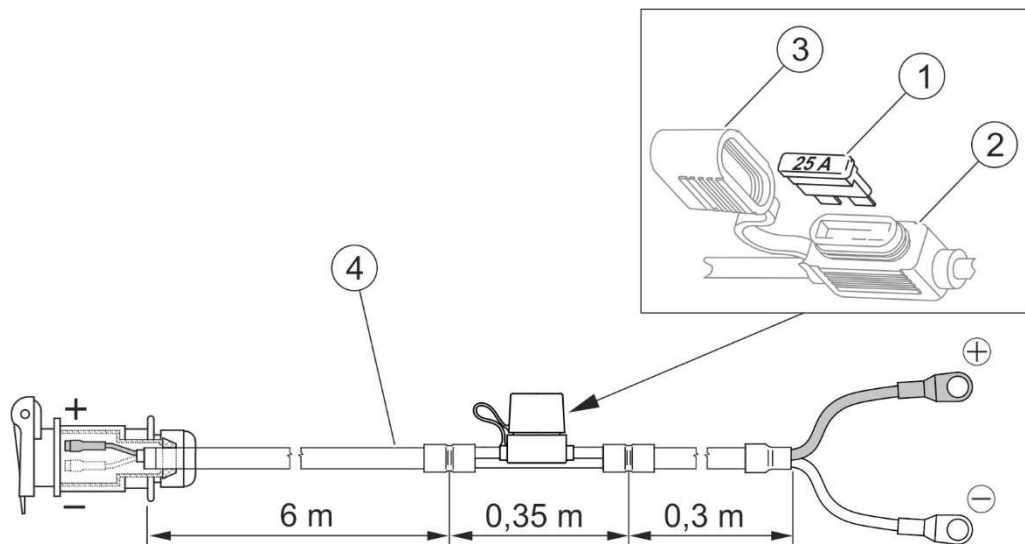

FIGURE 5.9 Fuses of power supply wiring harness (snowplough with hydraulic system - 2 pairs of quick couplers or 1 pair of quick couplers).
(1) - UNIVAL 25A fuse; (2) - fuse holder; (3) – protective cover; (4) - power supply wiring harness installed in the carrying vehicle.
On the wiring harness (4) (FIGURE 5.9) supplying the electrical system of the snowplough with the hydraulic system (2 pairs of quick couplers or 1 pair of quick couplers), there is a UNIVAL 25A fuse (1). To replace the fuse, remove protective cover (3) and take the fuse (1) out from holder (2).